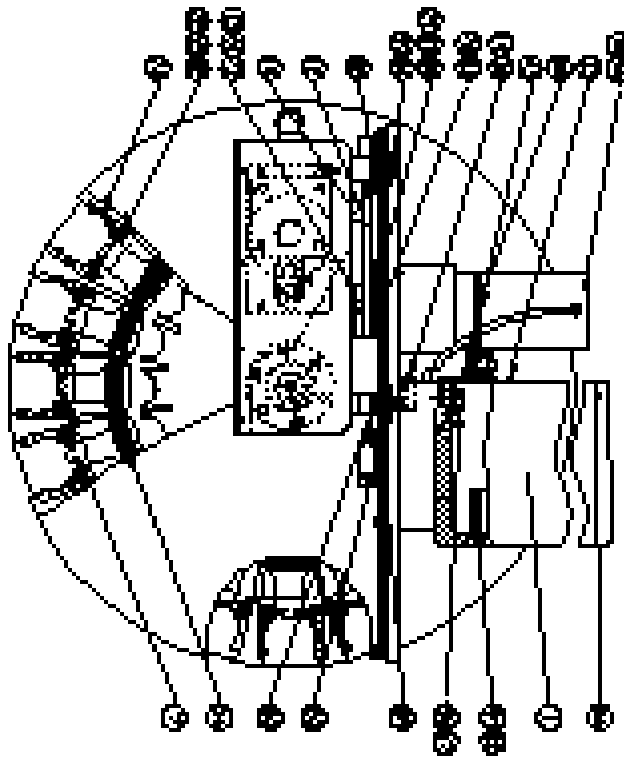

Fig. 14-3 Automatic Tool Changer - Mechanical Assembly, Page 2.
5. While pushing the shuttle in, align slot in the tool holder to the key extractor (Item 17, Fig. 14-3). Cam follower must reach the full up position to ensure the shuttle has reached the full in position. If ATC is fully engaged and cam follower cannot be pushed all the way up, the shuttle stroke must be adjusted.
8. Ensure the extractor (Item 16, Fig. 14-3) is making full contact on the tool flange.
2. Loosen the four 1/2-13 HHB's in the X-axis plane located in the tool holding arm (Item 5, Fig. 14-3).
6. Place the 1-2-3 block on the right side of the carriage casting (Item 6, Fig. 14-3) in the Y-axis plane.
2. Remove the cover from the tool carriage casting (Item 6, Fig. 14-3).
5. Loosen the set screw that secures the slip clutch assembly to the shuttle motor (Items 15 and 72, Fig. 14-3).
6. Using a small two-jaw puller, pull the slip clutch assembly (Item 15, Fig. 14-3) off the shuttle motor shaft.
7. Remove the six SHCS that attach the Geneva star (Item 8, Figure 14-3) to the bearing housing on the ATC carousel.